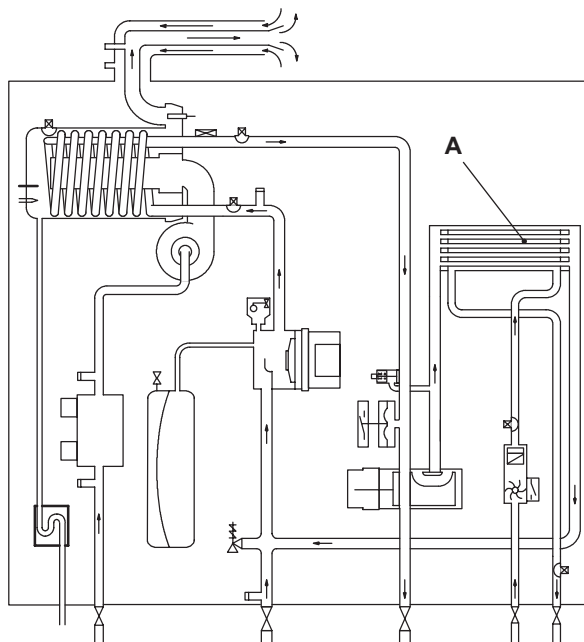
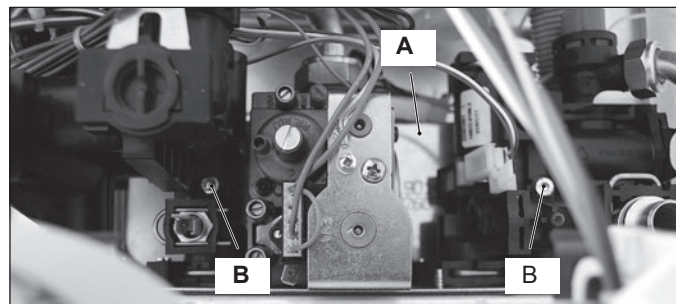

Figure 6.1
Figure 6.3
The d.h.w heat exchanger A in Figure 6.1 and Figure 6.3 allows the instantaneous transfer of heat from the primary hydraulic circuit to the water destined for d.h.w use.
- 6 Completely unscrew the Allen key screws B in Figure 6.3 which hold the exchanger to the plastic groups.